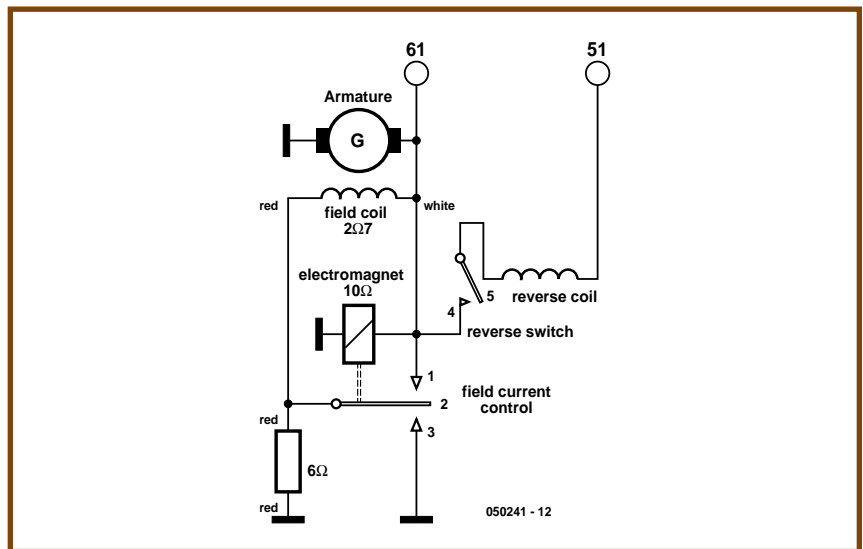

Figure 1. The original dynamo circuit.
A diagram of the original regulator circuit is shown in **Figure 1**. With the dynamo at rest the reverse-current switch (contacts 4/5) is open and the wiper of the field current switch (2) provides a path to earth for the field winding through contact 1. When the dynamo begins to rotate there is sufficient residual magnetism in the field